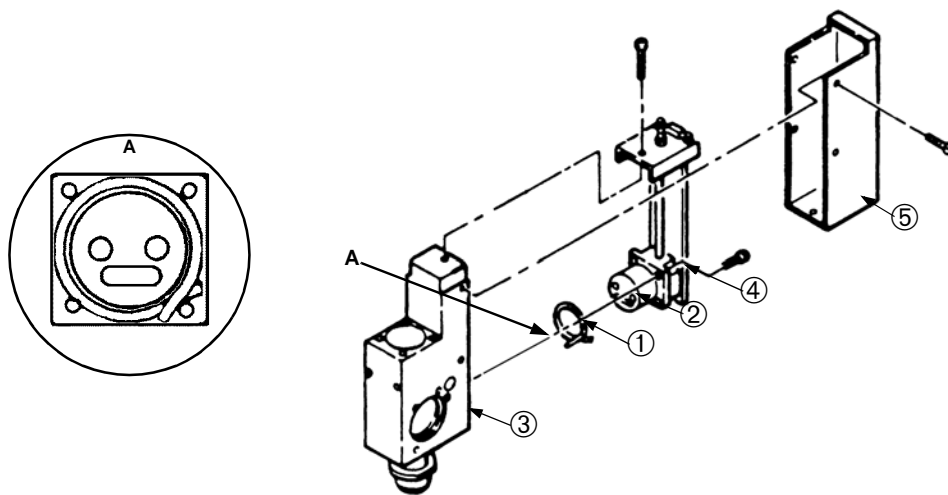
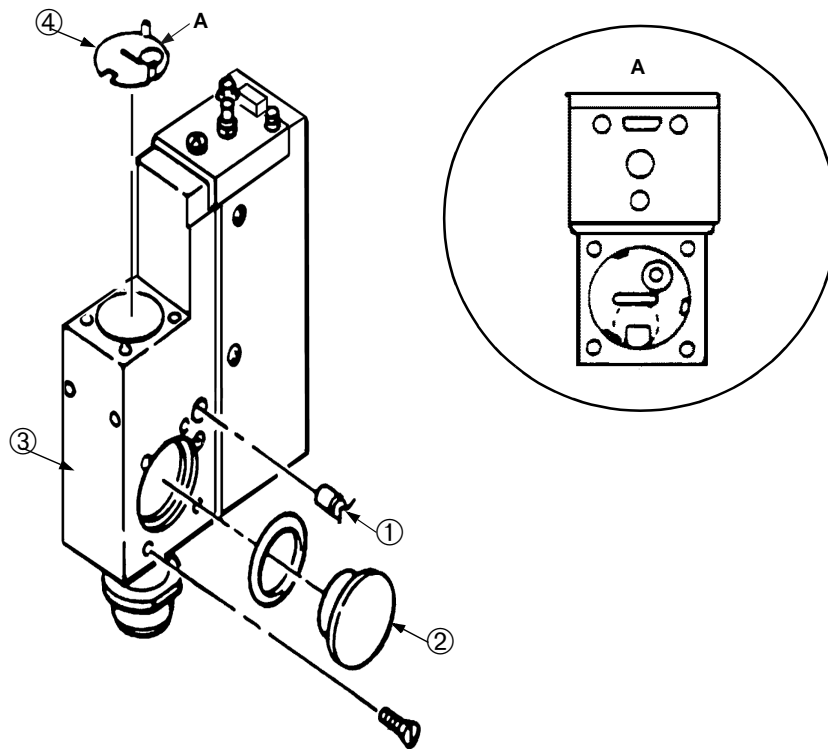
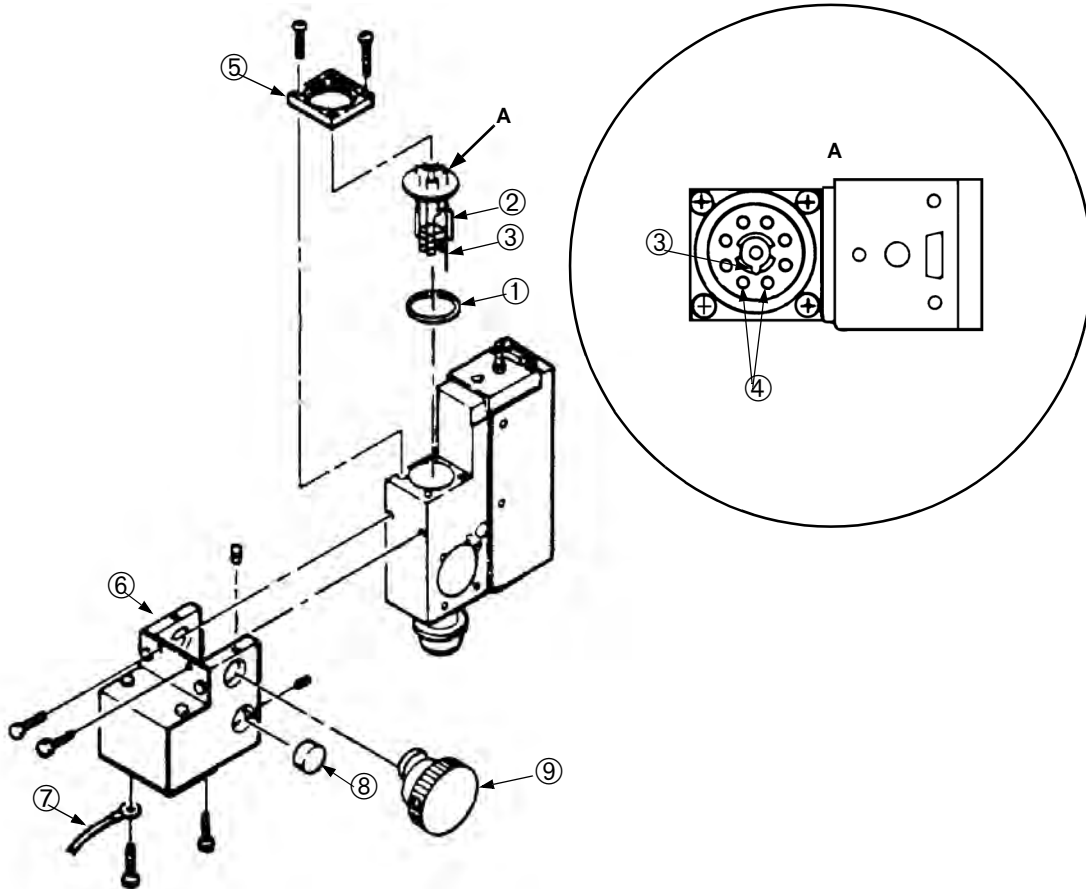

Figure 4-4 Spectrometer Tube Reassembly
Figure 4-5 Spectrometer Tube Reassembly (Ground Slit Plate)
Figure 4-6 Spectrometer Tube Reassembly (Magnet Assembly)
Refer to Figure 4-4 for step 1 through step 5, to Figure 4-5 for step 6 through step 8, and Figure 4-6 on page 4-19 for step 9 through step 13.
1. Place a new metal seal ① on the collector housing assembly ② with the ends of the seal crossed under one of the screw holes (Figure 4-4, View A).
2. Mount the collector housing assembly to the spectrometer tube body ③ with the four socket head cap screws, sized 8-32.
- Put the heater cartridge ① back in its cavity (Figure 4-5).
- With the new O-rings on each of the two deflection pole pieces ②, insert the pole pieces into the spectrometer tube body ③, tighten the four slotted screws on each side of the spectrometer tube, and note the positions of both the roll pin in the body and the notch in the pole piece flange used for alignment.
- When installing the ground slit plate ④, be sure that the snap prongs are facing up, then align the slit at 90° with the side wall of the spectrometer tube, and concentrically align the circular hole in the plate with the smaller guide hole in the bottom of the ion source cavity (Figure 4-5, View A).
- Wipe the new O-ring ① and mating surfaces with a clean, lint-free cloth and place the new ion source ② in its cavity (Figure 4-6 on page 4-19) as follows:
- ❑ Place the locating pin ③ approximately in the center of the guide hole.
- ❑ Ensure that pins 1 and 8 ④ are parallel to the side wall of the spectrometer tube as shown in Figure 4-6 on page 4-19, View A.
- ❑ Tighten the flange cap ⑤ evenly and firmly with the four Phillips head screws.